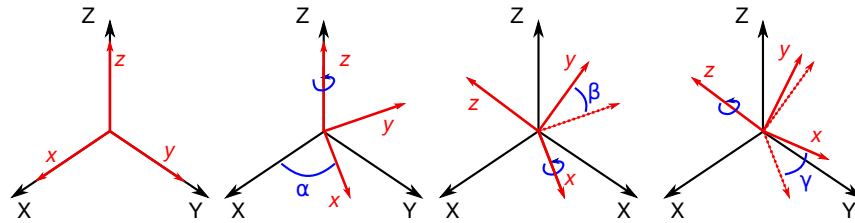

Figure 7-1. A rotation represented by Euler angles (α, β, γ) using $Z(\alpha)X(\beta)Z(\gamma)$ intrinsic rotations.
2. **Local Coordinate Systems.** It is possible to have the ICFD parts or ICFD_PART_VOLs rotate around the global reference frame but also to define and use a local reference frame by defining its point of origin and two of its vectors $\mathbf{v}_1 = (X1, Y1, Z1)$ and $\mathbf{v}_2 = (X2, Y2, Z2)$. The third vector is, then, in the direction of $\mathbf{v}_1 \times \mathbf{v}_2$. See Figure 7-1.